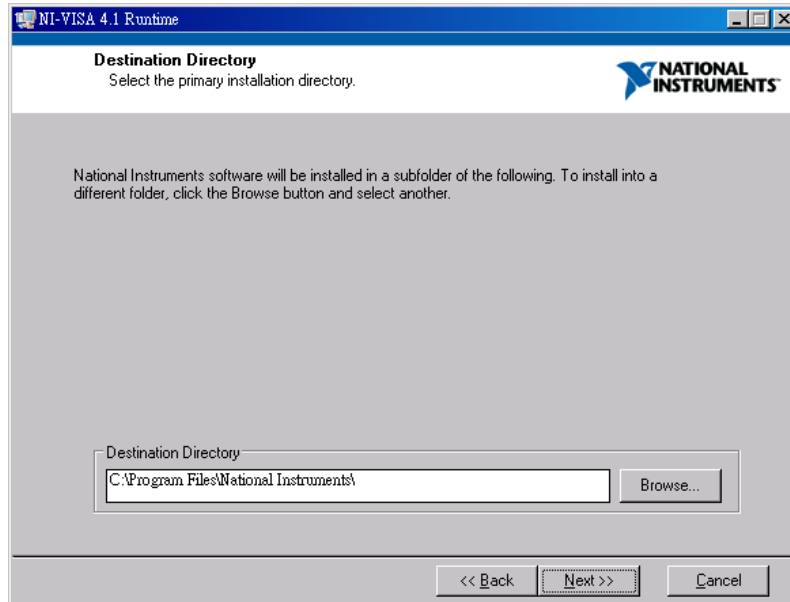

Figure 2-7 Determining the Installation Path
2. It is suggested to end other executing applications before clicking **Next** to start installation. The next step asks the user to determine the installation path as Figure 2-7 shows.